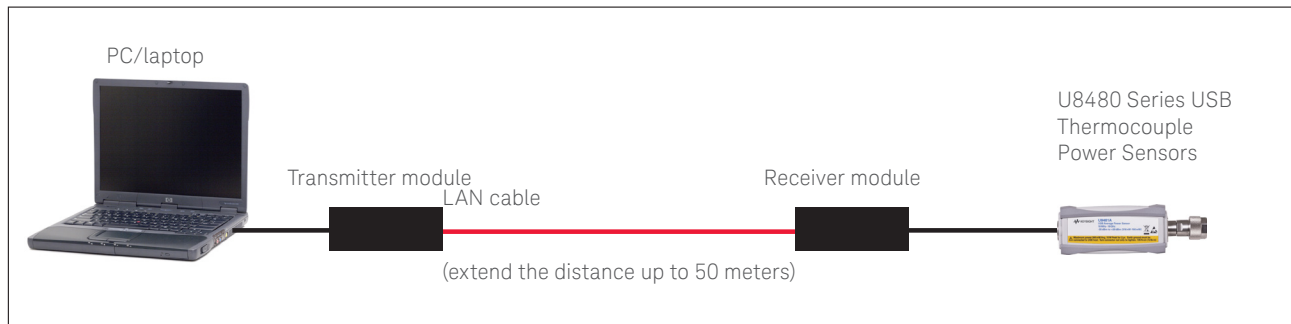

Figure 13. USB power sensor and USB extender configuration diagram
1. Connect a PC/laptop (installed with the N1918A Power Analysis Manager, Power Panel software) to the USB extender through LAN cable. (See Figure 13).